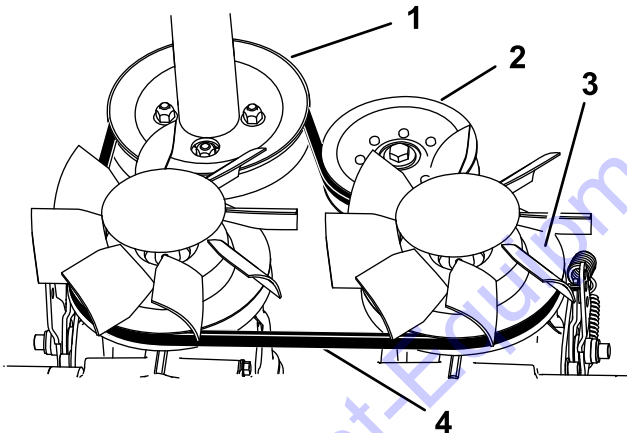

Figure 43
9. Route the new belt around the engine pulley and 2 transmission pulleys (Figure 43).